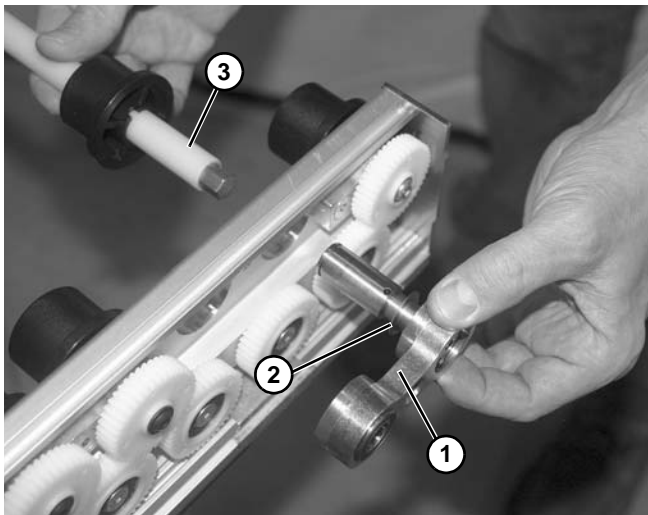

Figure 24
11. Remove the bearing assembly (**Figure 24, item 1**) along with washer (**Figure 24, item 2**) and shaft assembly (**Figure 24, item 3**) from the conveyor frame.